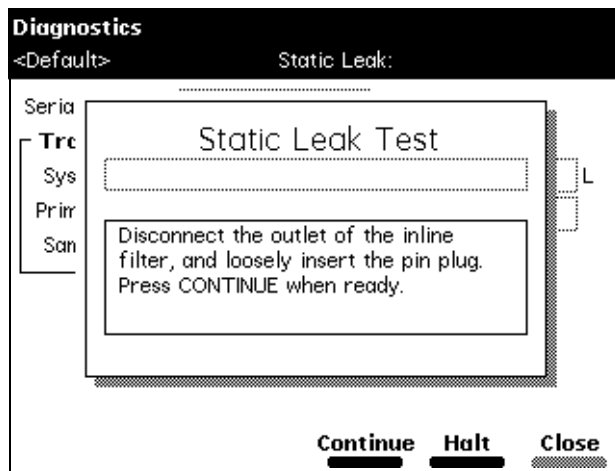

Figure 8-7 Static Leak Test Screen
1. Select **Static leak test** in the Other Diagnostics drop-down list, then press the **OK** screen key. The Static Leak Test dialog box appears (Figure 8-7).